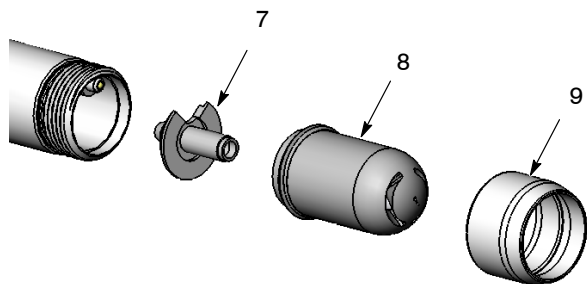
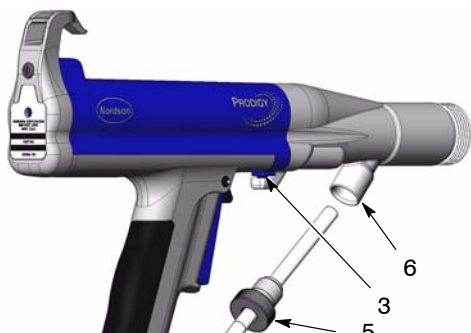

Figure 17 Remove the Nozzle and Tubing Adapter
Figure 23 Loosening the Adapter Set Screw
2. See Figure 17. Unscrew and separate the retaining nut (9) and nozzle (8) assembly from the spray gun.
3. Pull the tubing adapter (7) from the powder tube.
1. See Figure 17. Unscrew the nozzle (8) and retaining nut (9) from the spray gun.
2. Pull the tubing adapter (7) out of the powder tubing.
3. See Figure 23. Unscrew the lock knob (5) and pull the powder tubing out of the gun adapter (6).
4. Loosen the set screw (3) in the bottom on the gun adapter.
6. See Figure 17. Install the powder tubing by following the *Tubing Installation* procedure on page 7.
8. See Figure 17. Install the powder tubing by following the *Tubing Installation* procedure on page 7.